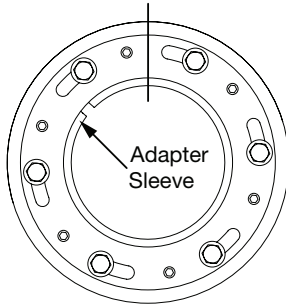

Figure 2. Mark face of external nut and adapter.
- Important: Mark a line on the adapter and external nut to be used as a location reference, see Figure 2. This is a critical point and represents the location of the nut assembly before the socket head cap screws are tightened.**